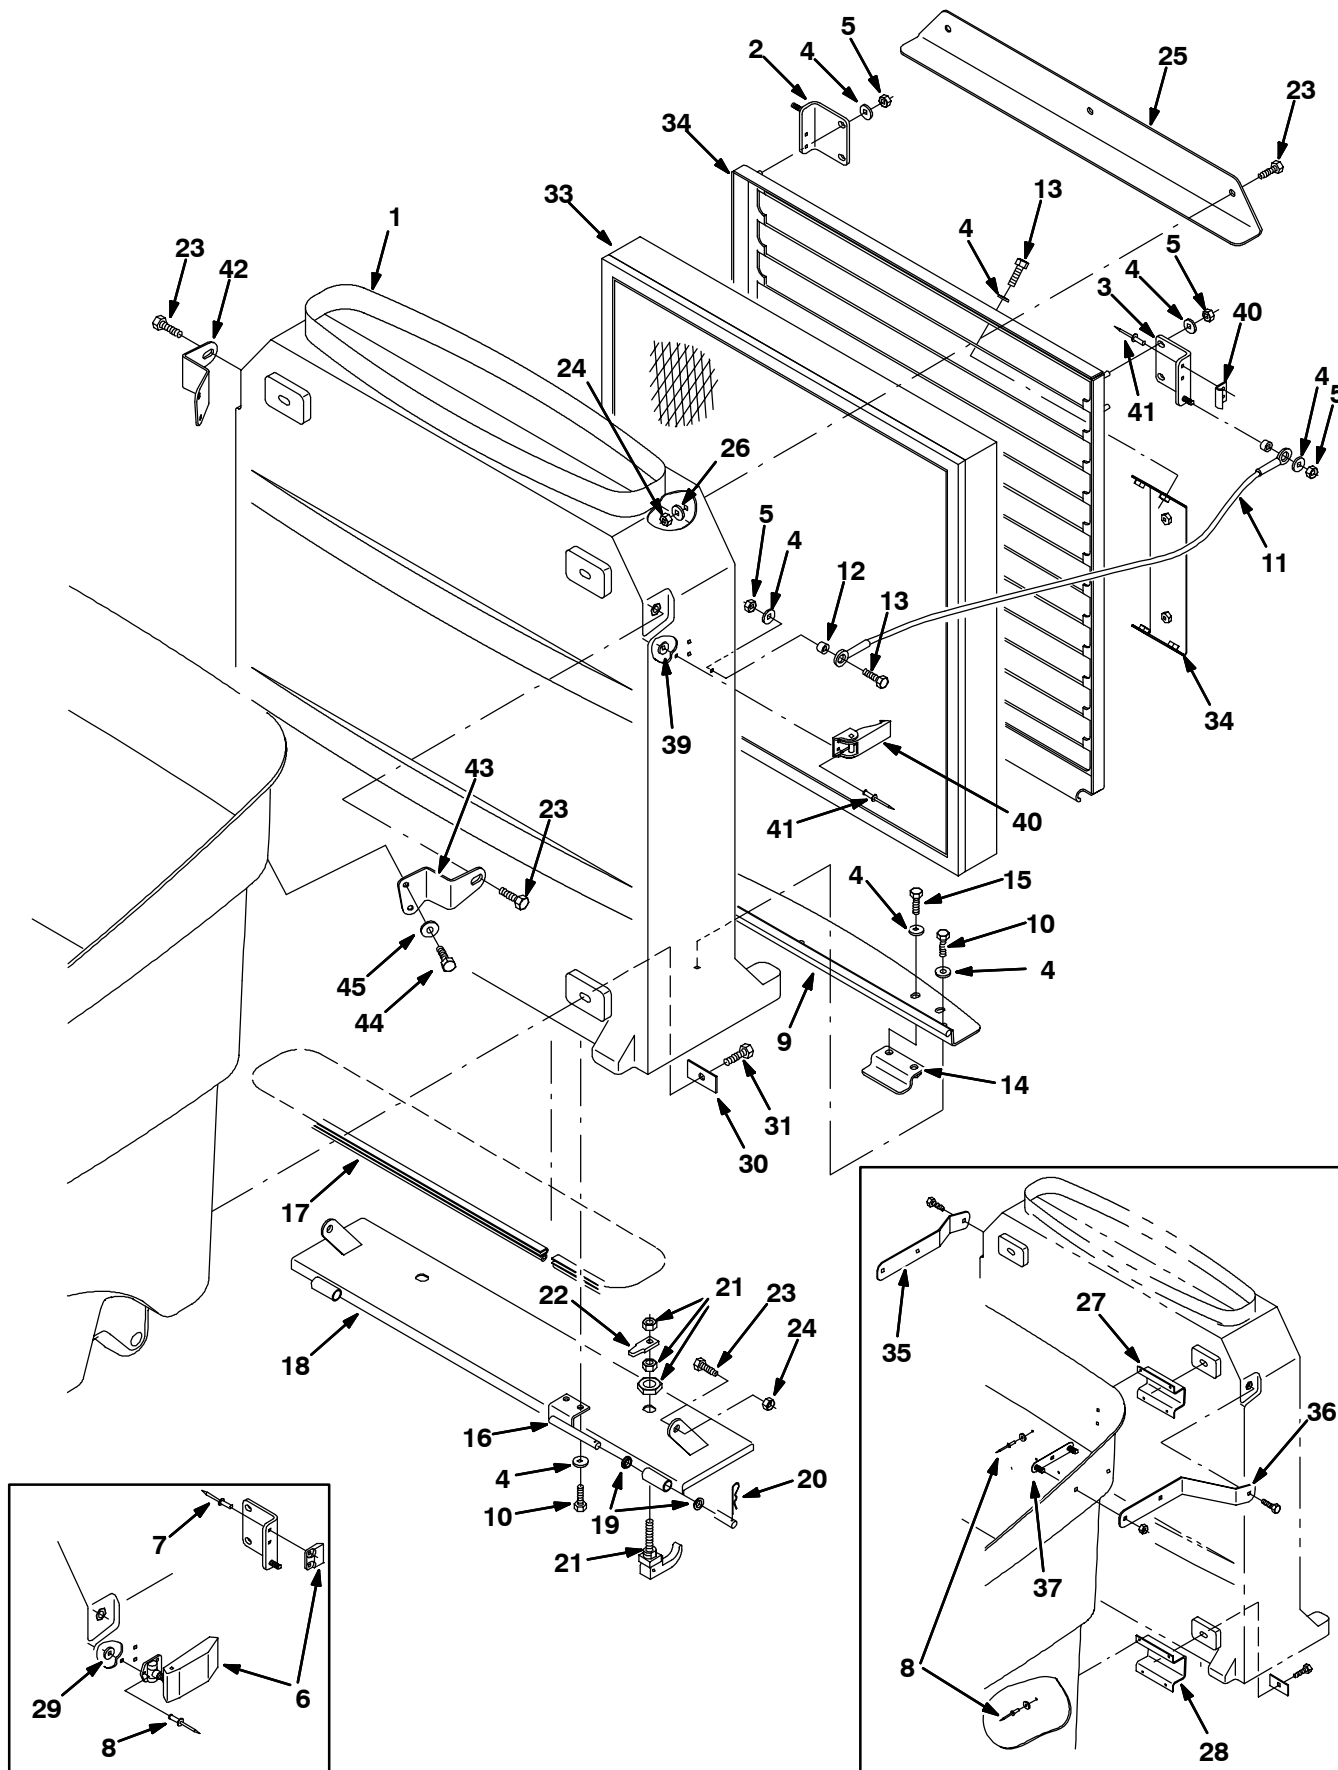

FIG. 6 - Dust Filter Housing Group (Serial Number 001535-)
(Refer to FIG. 6)
18. Loosely mount the right hand (2) and left hand (3) cable brackets to the filter door (32) with washers (4) and nyloc nuts (5). (Refer to FIG. 6)
19. Mount one end of each filter housing cable (11) to each side of the plastic filter housing (1) with hex screws (13) sleeves (12), washers (4) and lock nuts (5). (Refer to FIG. 6)
20. Install the filter door (32) onto the door hinge (9), in the plastic filter housing (1). Close the filter door (32) and secure it with the door latches (6).
Tighten all plastic filter housing hardware when finished adjusting all the filter door mounting hardware. (Refer to FIG. 6)
6. If the machine is equipped with a slow-moving vehicle sign, mount the SMV label bracket (34) to the filter door (32) with hex screws, (13) and washers (4). Attach the sign to the bracket (34). (Refer to FIG. 6)
NOTE: Dust Filter Kit, Tennant Part Number 367613 includes Fig. 6 and Fig. 7